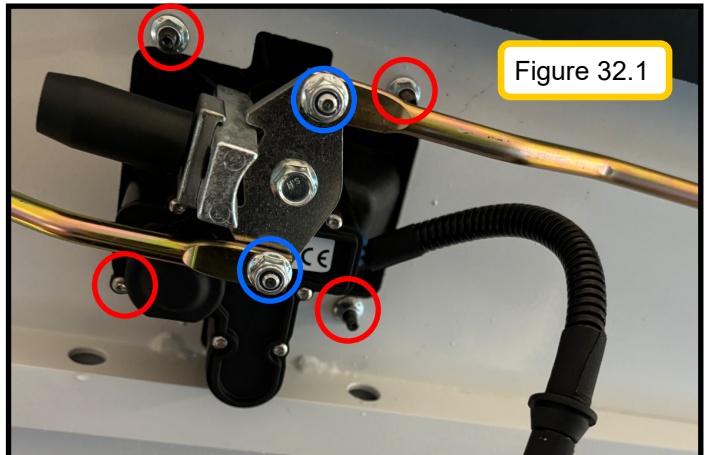
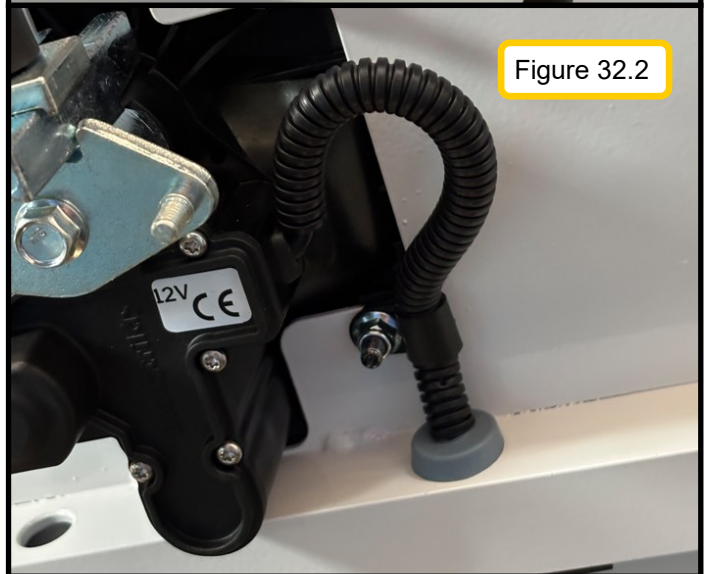

Figure 32.1
Figure 32.2
11. Install the E-locks using [4] 8mm nuts (FAS0917), add the P-clip included in the door harness bag to the lock harness as shown in fig 32.2, and secure the locking rods themselves using [2] 10mm nuts (FAS0918). (Fig 32.1)
13. The grommet is designed to be squished into place. Use a small dull screwdriver or plastic blade to press the angled piece of the blade through the hole, leaving the larger section outside the tube. (Fig 32.2)